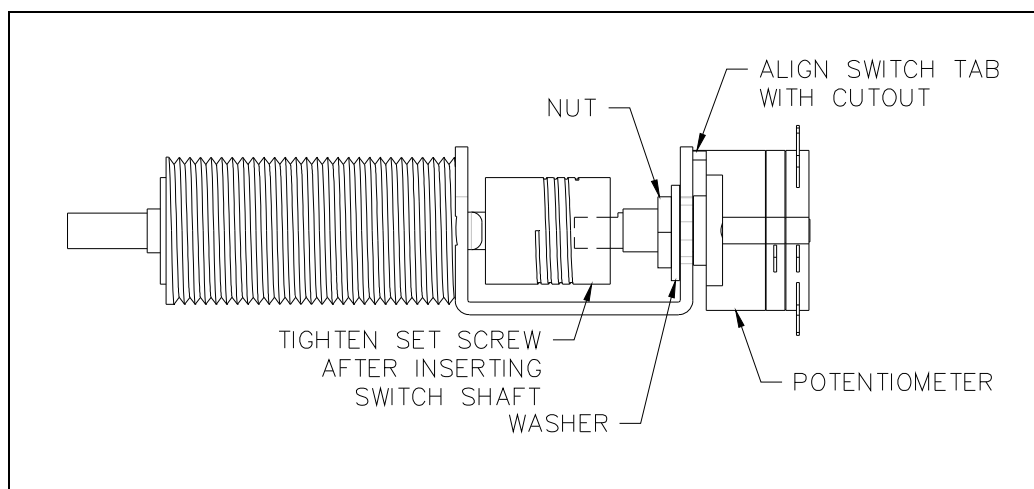

Figure 2. Switch Assembly Detail
10. Fasten the potentiometer to the rear of the rotary adapter switch (see Figure 2).